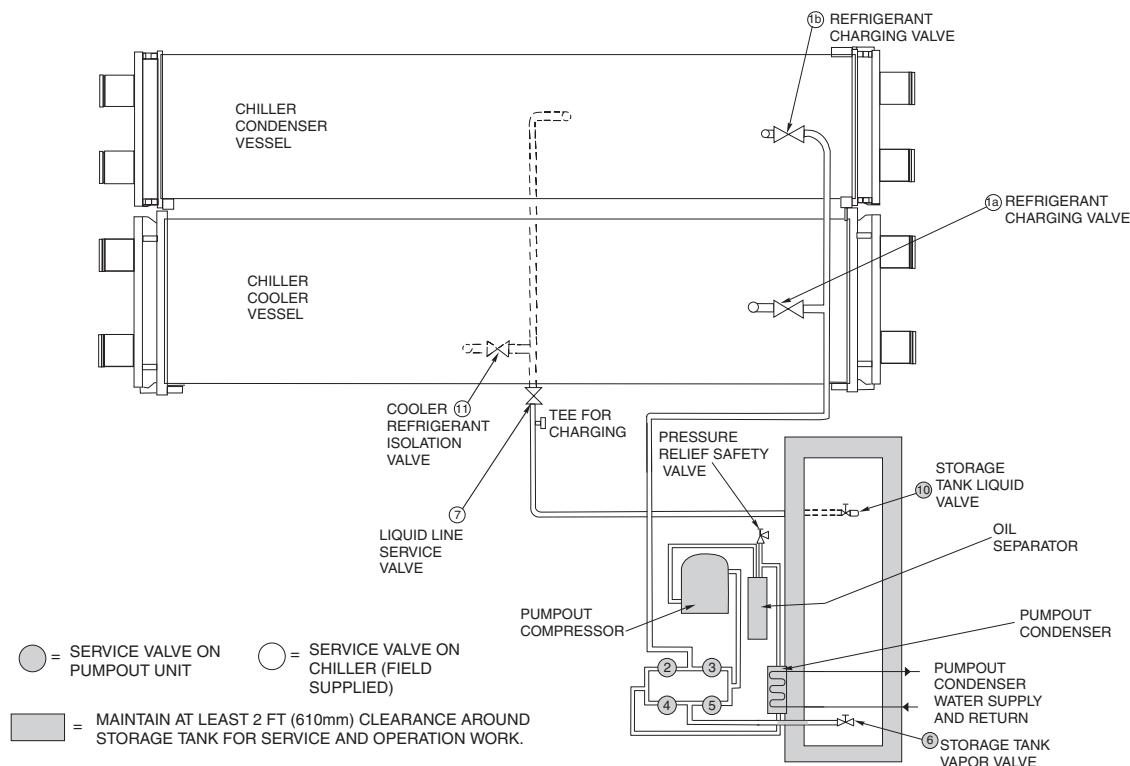

Fig. 23 — Typical Optional Pumpout System Piping Schematic with Storage Tank
3. Once the pressures have equalized, the cooler isolation valve, the condenser isolation valve, and the hot gas isolation valve may now be opened. Refer to Fig. 23 and 24 for the location of the valves.
2. Open valve 4 on the pumpout unit and open valves 1a and 1b on the chiller cooler and condenser, Fig. 23 and 24. Slowly open valve 2 on the pumpout unit to equalize the pressure. This process takes approximately 15 minutes.
If the chiller has been shipped with a holding charge, the refrigerant is added through the pumpout charging connection (Fig. 23 and 24, valve 1b). First evacuate the nitrogen holding charge from the chiller vessels. Charge the refrigerant as a gas until the system pressure exceeds 35 psig (241 kPa) for HFC-134a. After the chiller is beyond this pressure the refrigerant should be charged as a liquid until all the recommended refrigerant charge has been added. The charging valve (Fig. 23 and 24, valve 7) can be used to charge liquid to the cooler if the cooler isolation valve (11) is present and is closed. Do not charge liquid backwards through any of the floats to the condenser.